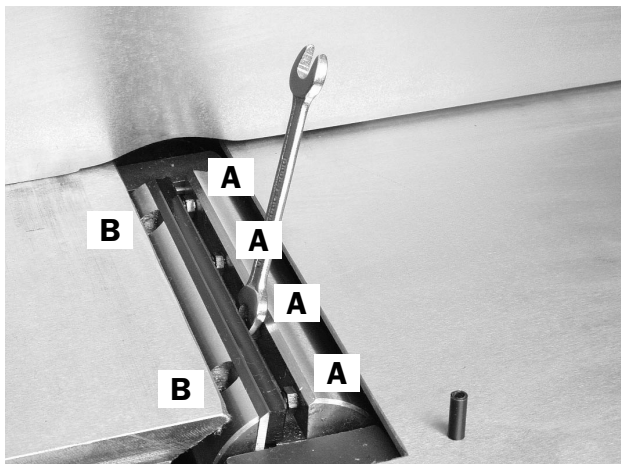

Fig. 14
5. If the knives are high or low at the ends, loosen the four (4) screws that hold the knife locking bars in place Fig. 14 (A), and turn the knife raising screws Fig. 15 (A), clockwise to raise the knives, and anti clockwise to lower them. When lowering the knives you may need to push them down gently onto the raising screws with a piece of wood after screws are turned.
6. Tighten locking bar screws. Fig. 14 (A)
5. Loosen the 4 knife locking bar screws Fig. 14 (A), remove knife and locking bars. Fig. 16.